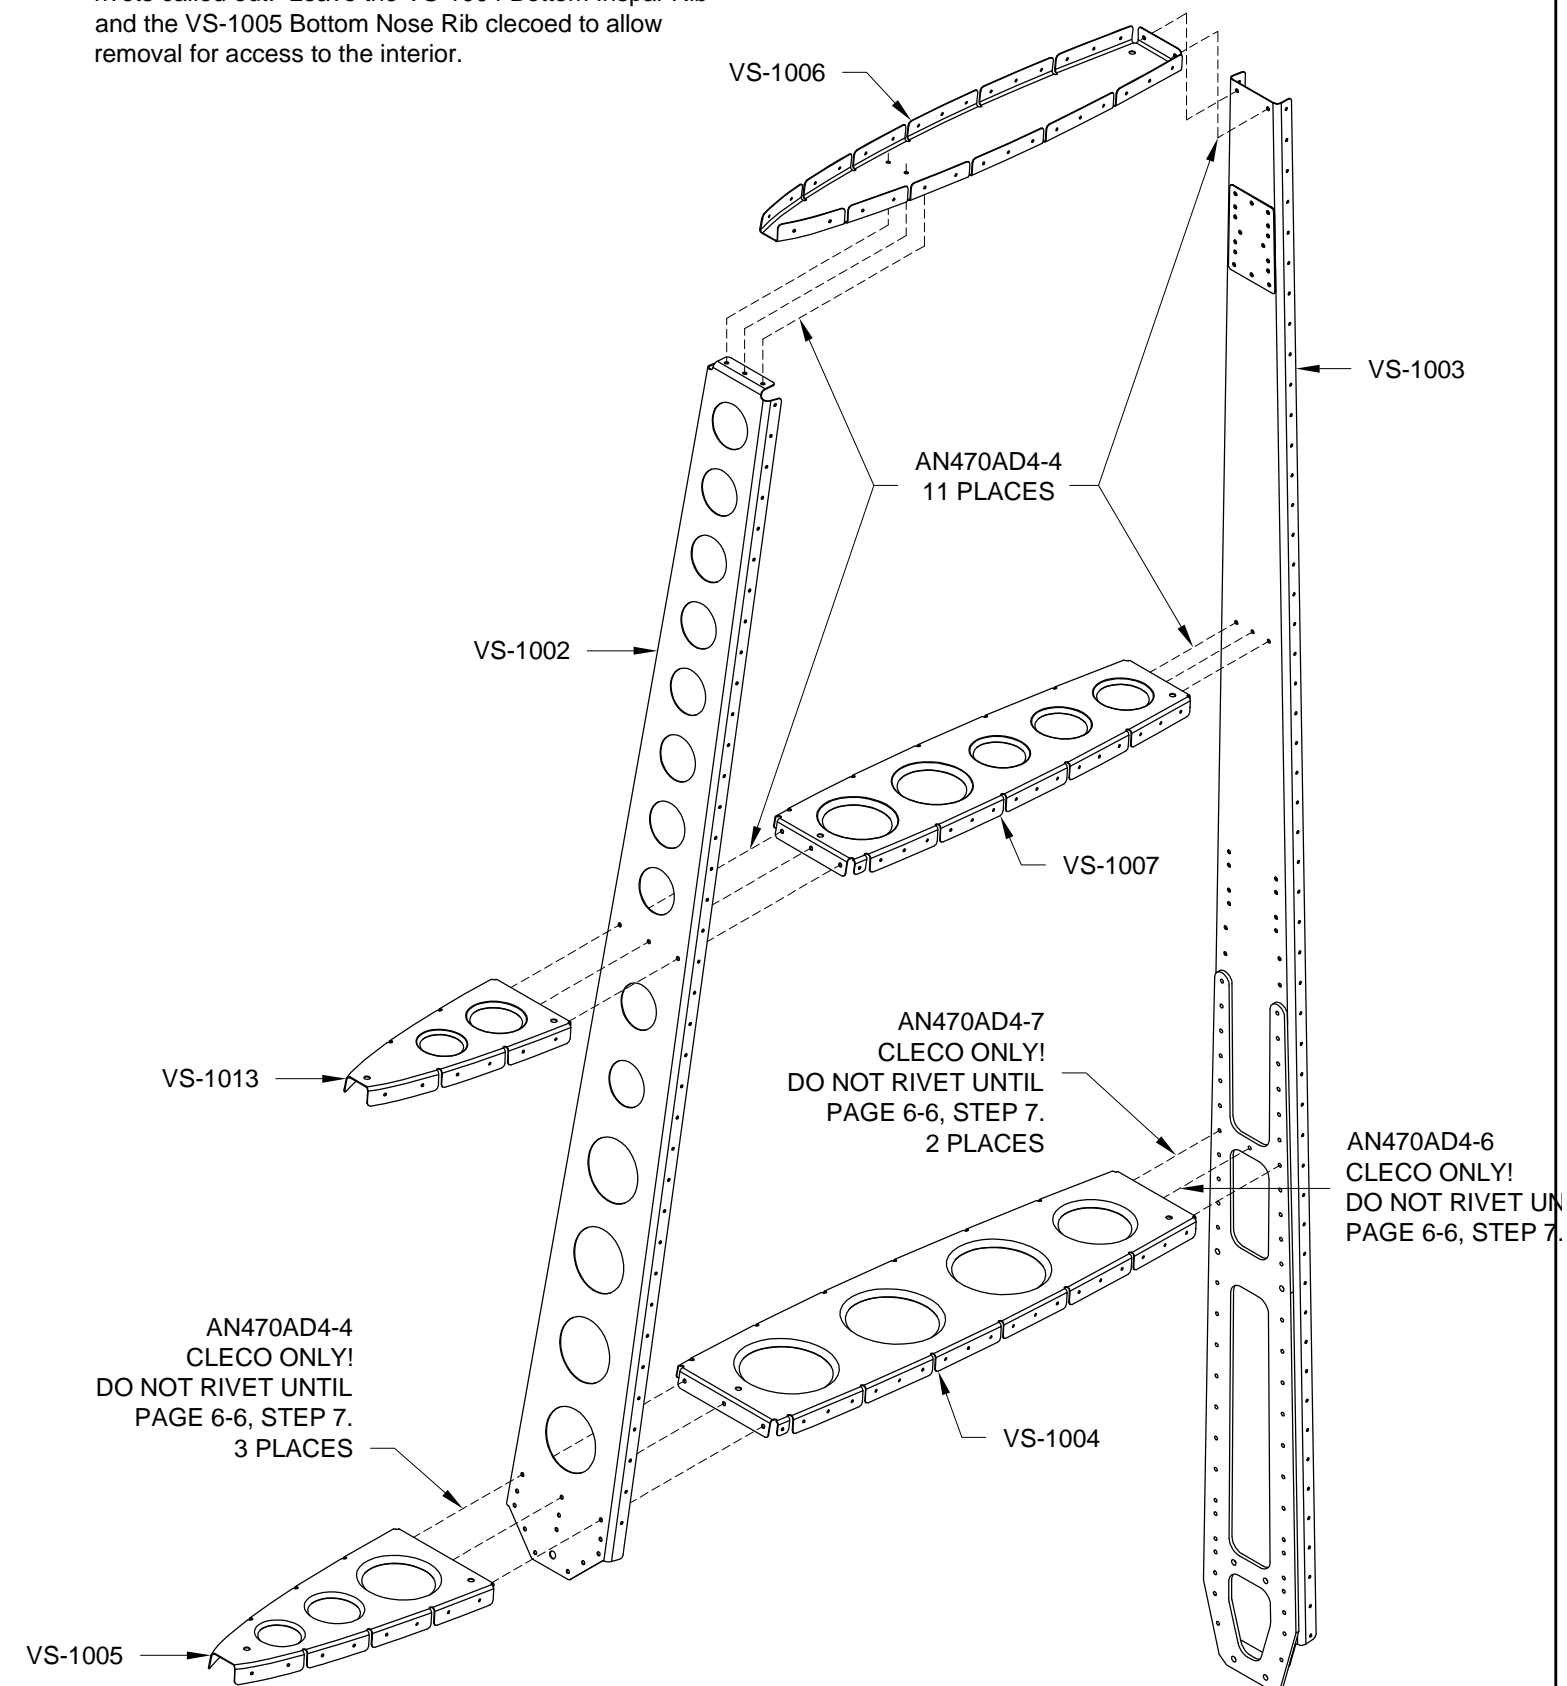

FIGURE 3: RIB RIVETS
Step 3: Attach the parts shown in Figure 3 using the rivets called out. Leave the VS-1004 Bottom Inspar Rib and the VS-1005 Bottom Nose Rib clecoed to allow removal for access to the interior.
Step 7: Cleco the bottom inspar rib in place. Rivet the spar flanges of the bottom ribs to the spars using the rivets called out on Page 6-5, Figure 3. With the exception of the empennage fairing screw holes, rivet the skin to the bottom inspar rib.